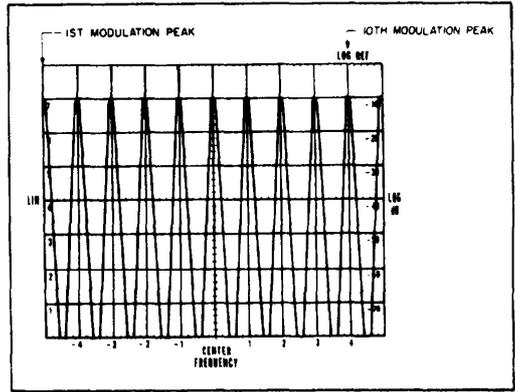

Figure 4-7. Scan Time Modulation Peaks
5. Adjust the audio oscillator modulation frequency to align the tenth modulation peak with the +4 graticule line (see Figure 4-7). Total scan time is read on the HP 5245L and should be 2.0 ±0.2 ms.